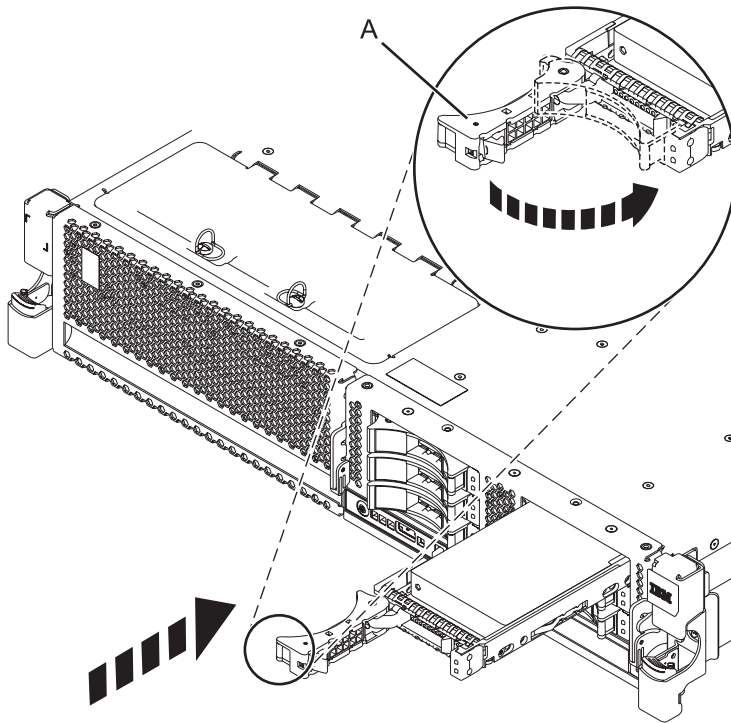

Figure 9. Installing the drive in the system
4. Slide the drive all the way into the system or expansion unit, and push the drive handle (A) in until it locks, as shown in Figure 9.